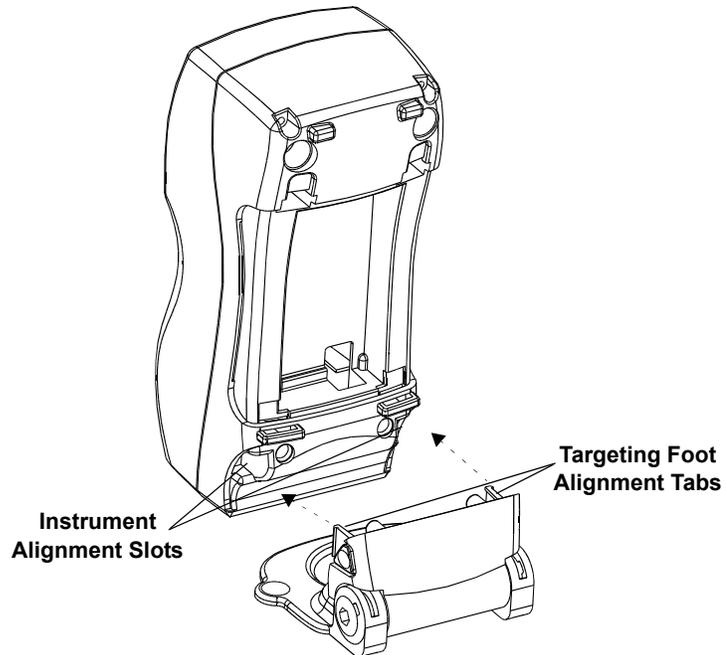

Figure 1-10. Installing the Targeting Foot
2. Insert the targeting foot alignment tabs into the alignment slots on the instrument. You will hear the targeting foot snap into place. Refer to Figure 1-10.